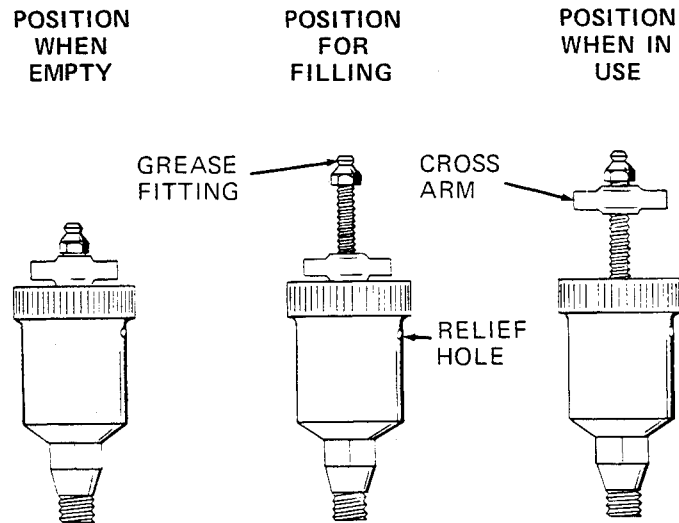

Figure 3. Automatic Lubricating Grease Cup
Before removing the seal assembly, turn the cross arm on the seal grease cup (30) clockwise until it rests against the cover (see figure 3). This will prevent the grease in the cup from escaping after the seal is removed.
Before starting the pump, fill the grease cup through the grease fitting with a good grade of No. 2 pressure gun grease until grease escapes from the relief hole. Turn the grease cup arm counterclockwise until it is at the top of the stem; this will release the spring to apply grease to the seal (see figure 3).